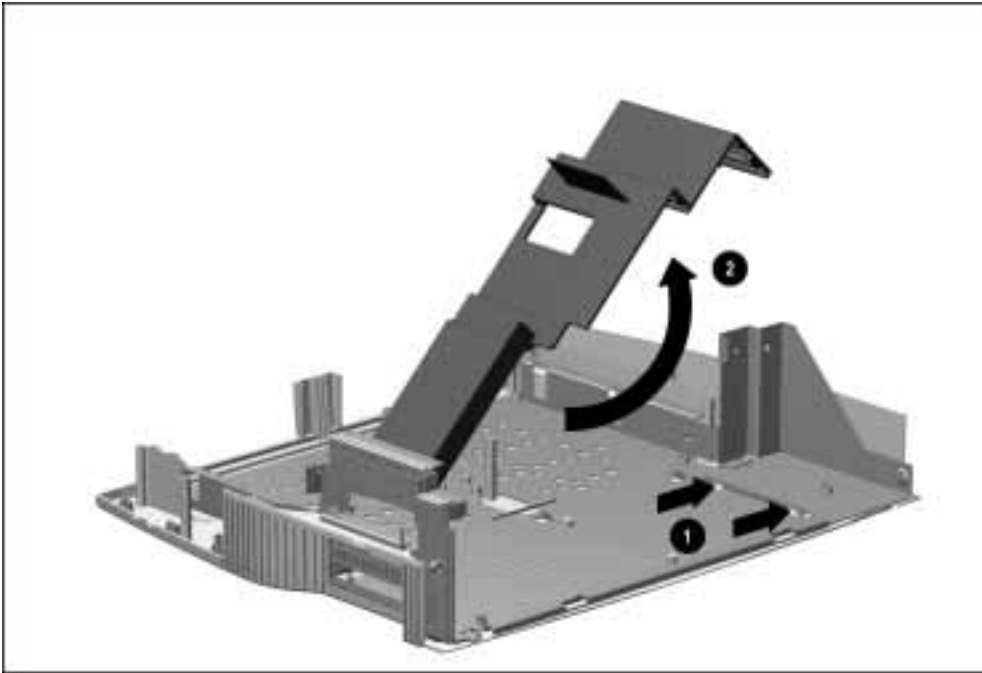

Figure 5-55. *Releasing the Expansion Card Cage*
- Flex the right bottom side of the expansion card cage away from the retainer on the base assembly ❶ and swing the cage up and away ❷ (Figure 5-55).